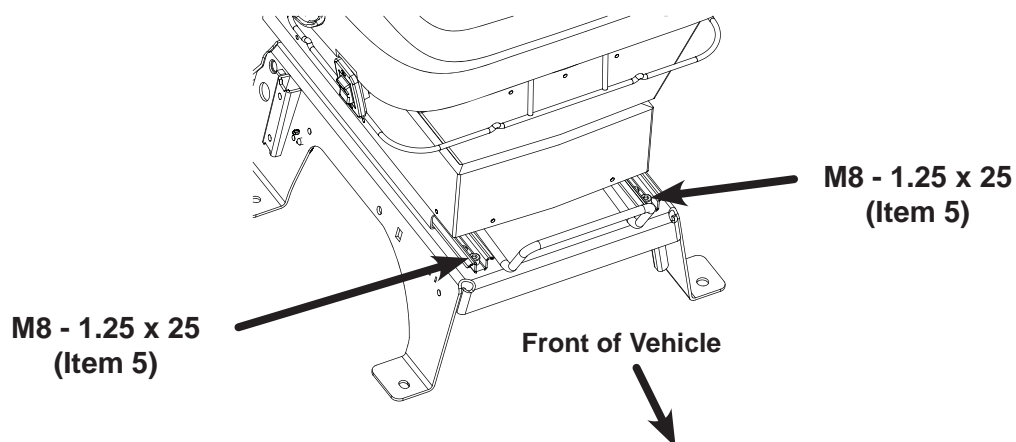

Fig. 24
39. Slide seat full forward and torque (4) BOLT, Socket Head M8 - 1.25 x 25, (Item 5), to 25 +/- 3 Nm See Fig. 24